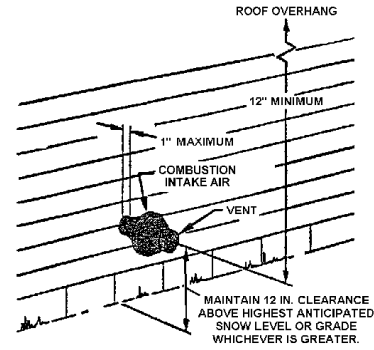

FIGURE 28.
PROCEDURE 2 SIDE WALL TERMINATION, see Figure 28.
6. Secure assembly to structure as shown in Figure 28 using field-supplied metal strapping or equivalent support material.
NOTE: Ensure termination location clearance dimensions are as shown in the diagrams found in Figure 28 and 29. When extending the length of the 4" pipe, the added length beyond 21-1/8" must be deducted from the maximum equivalent feet of vent pipe.
NOTE: If assembly needs to be extended to allow side wall thickness requirement, the 2 pipes supplied in the kit may be replaced by using same diameter, field-supplied SDR-26 PVC (D2241) pipe. Do not extend 21 1/8" dimension more than 60 in. (See Figure 28.)